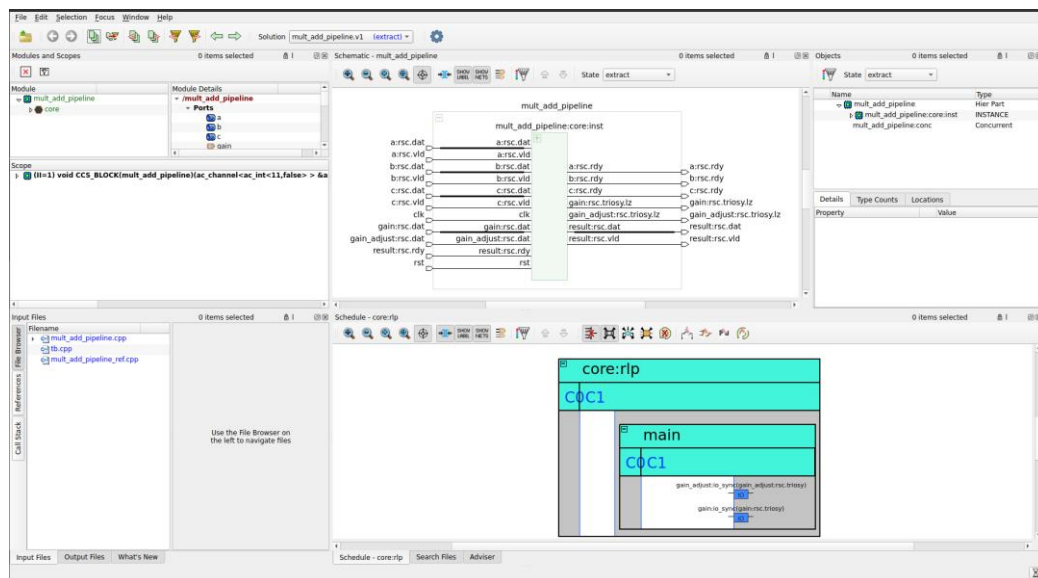

Figure 3. Catapult Design Analyzer GUI.
24. Different views appear. In the order of the standard perspective: *Modules and Scopes*, that shows the module hierarchy and scope analysis, *Schematic*, that contains the RTL structure. *State*, that displays the objects for a given design status, *Input Files*, containing the C++ source code and *Schedule*, showing the operation scheduling (Fig. 3).